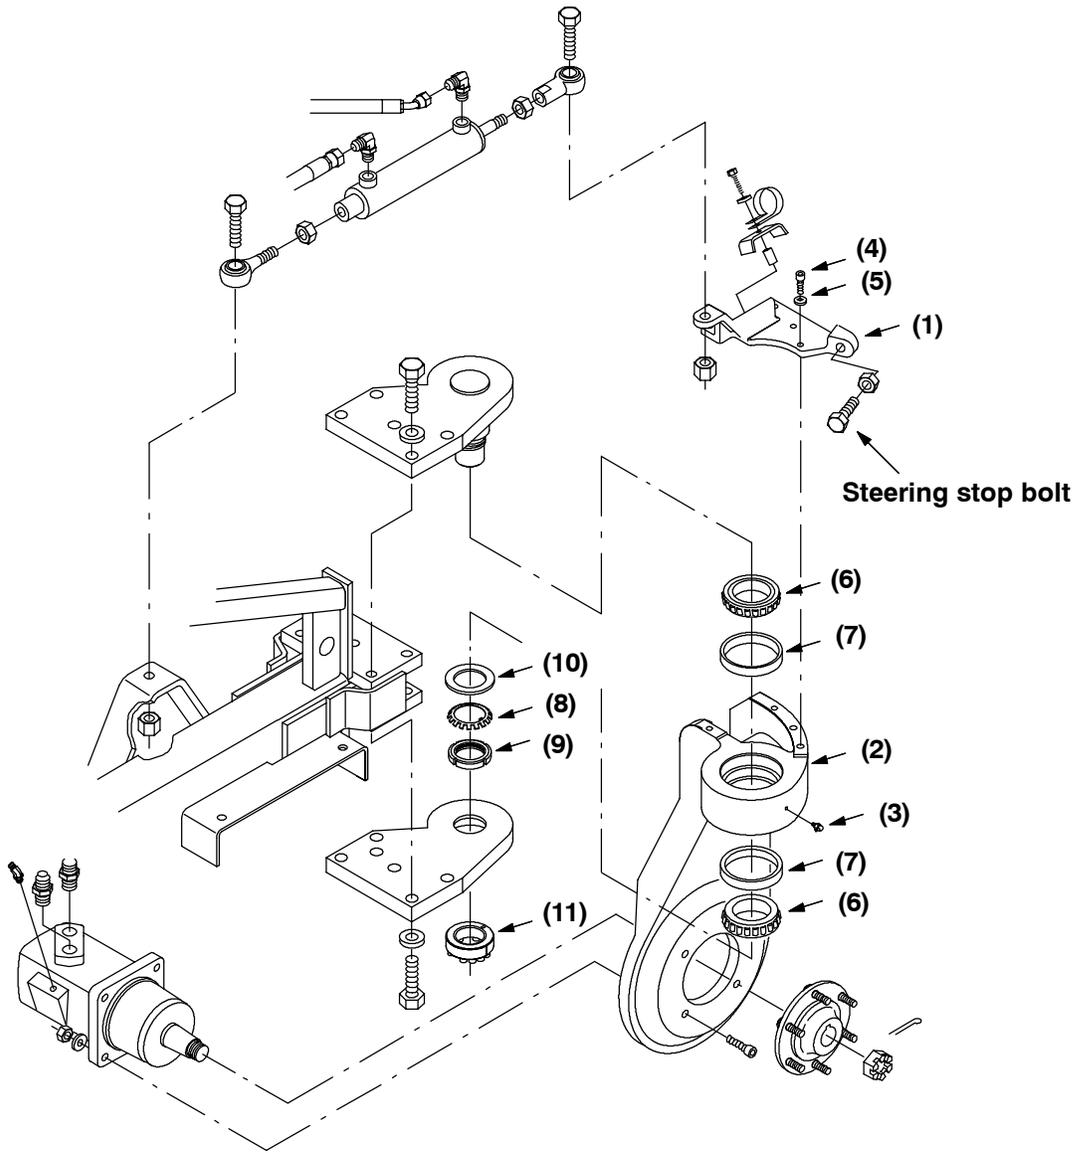

FIG. 14 - Overall Rear Drive And Steering Assembly
17. Remove the steering stop bolt from the old steering casting and install it on the new steering casting (1) in the same orientation. (Refer to FIG. 14)